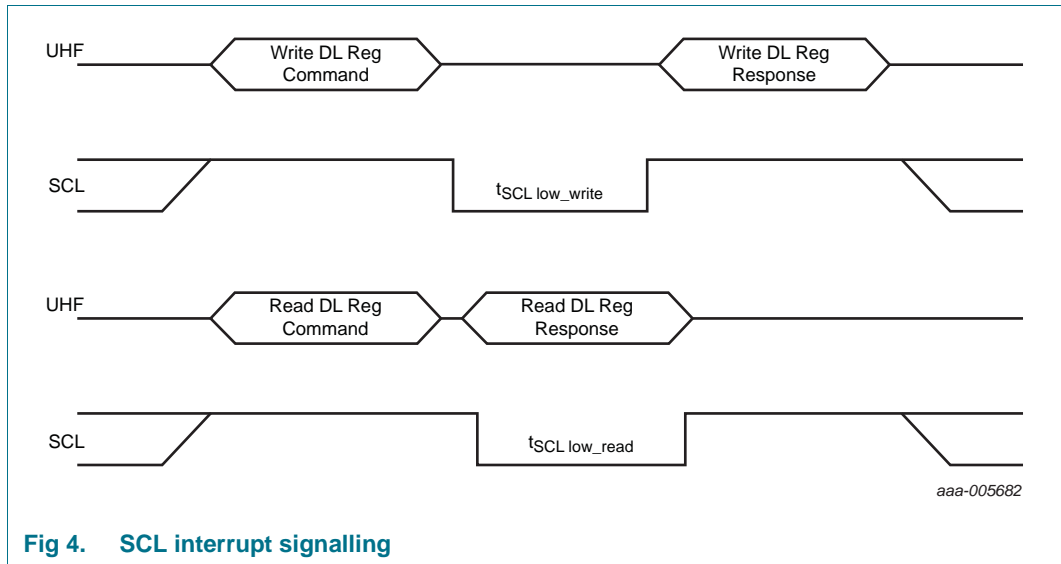

Fig 4. SCL interrupt signalling
- If the SCL INT enabler of the ConfigWord is set (20Bh) the SCL line will be pulled low for at least 210 μs in case new data was written by the reader or at least 85 μs in case new data has been read by the reader (see Figure 4 “SCL interrupt signalling” and Table 7 “Interrupt signaling via the I2C-SCL line timing”).